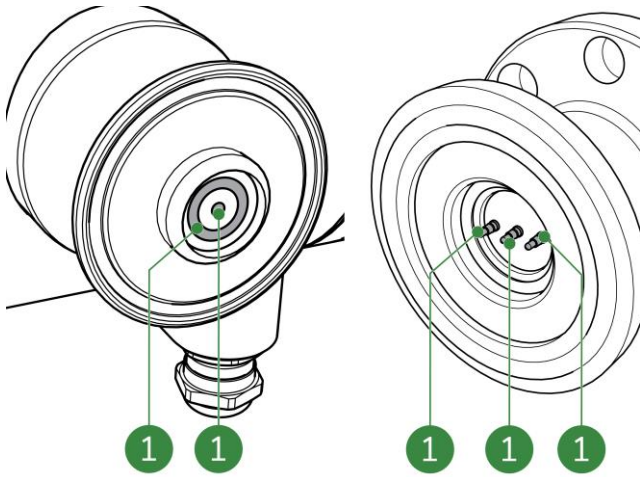

Figure 8-14: Sensor contacts
5. Do not rotate the transmitter and sensor when they are connected. This causes damage to the sensor contacts and the transmitter circle contacts (Figure 8-14, pos. 1).